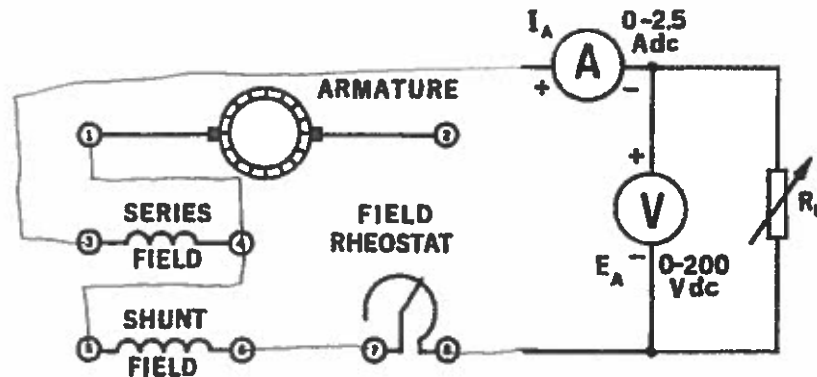

Figure 29-3.
- b. Complete the drawing shown in Figure 29-3 showing your proposed circuit change.